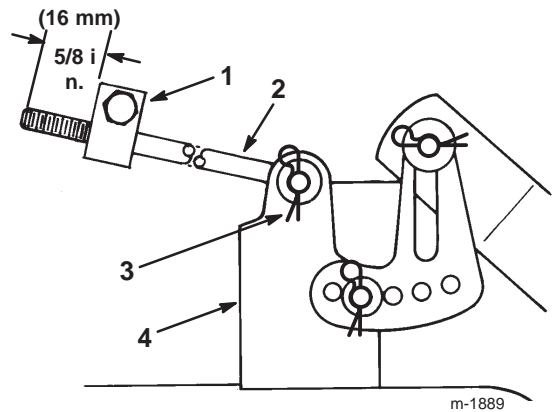

Figure 49
- Measure the length of the rod extending out of the front of the adjusting block on the sides of the chassis (Fig. 49). If the rod length is not 5/8 in. (16 mm), remove the hairpin cotter and washer from the end of the rod (Fig. 49) and turn the rod until it extends 5/8 in. (16 mm).